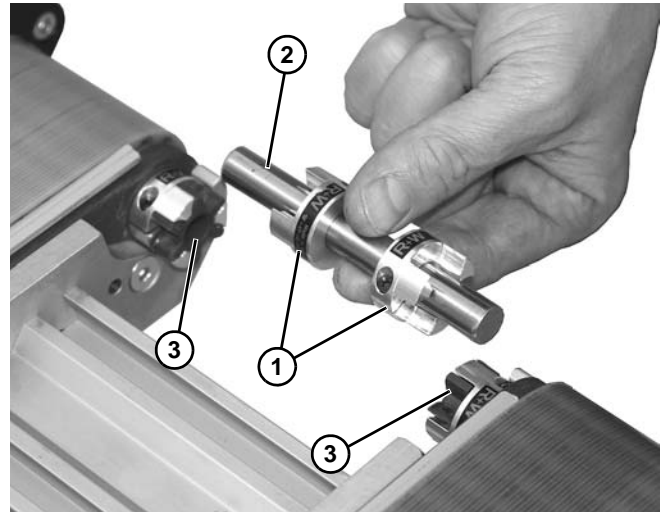

Figure 28
8. Install inner portion of 3-jaw coupling (**Figure 28, item 1**) onto center shaft (**Figure 28, item 2**).
9. Install center shaft assembly into end of each 3-jaw spider (**Figure 28, item 3**).